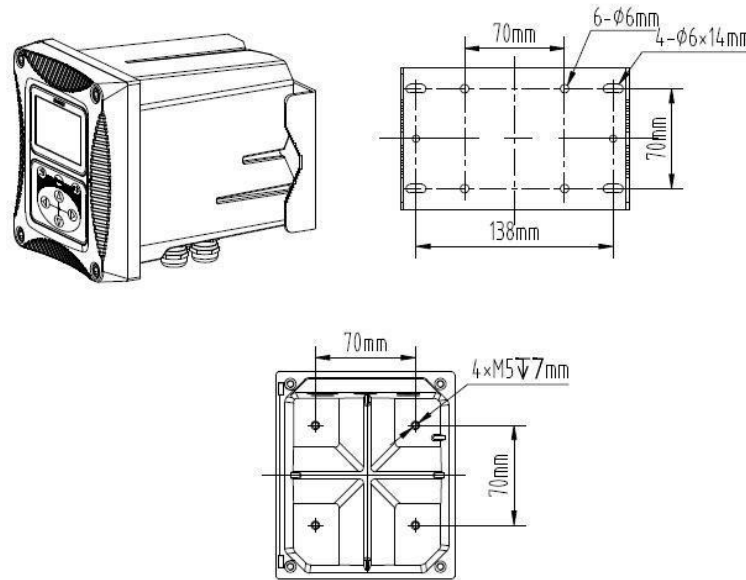

Figure 3 Installation Size
2. Figure 3 shows the transmitter installation size.